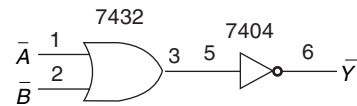

Fig. 4.92
- 32. Draw the truth table for the given diagram. (See Fig. 4.92)